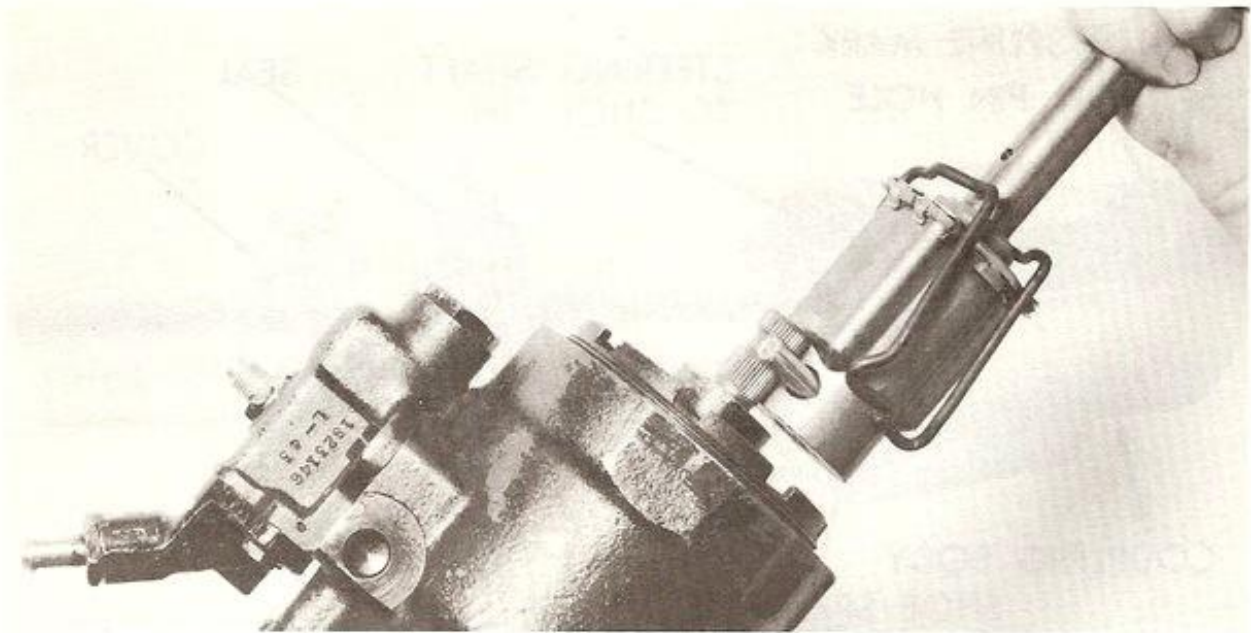

FIGURE 4. STEERING COUPLING TO GEAR ALIGNMENT
1. Position clamp over cover next to steering shaft with long open legs downward. (Figures 4 and 5)
3. Rotate clamp so that long legs are on roll pin side of coupling. (Figure 4)